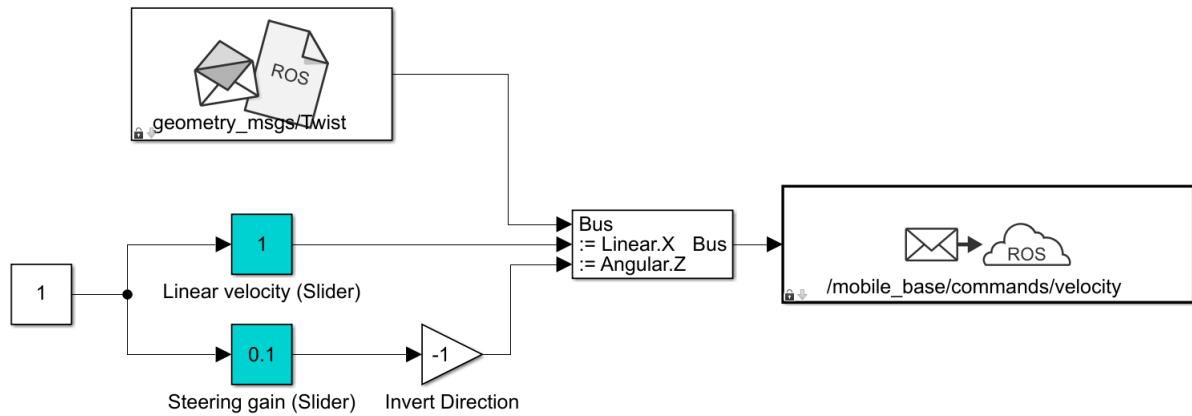

Figure 5: Simulink schematic
7. Under the 'Network' tab, choose 'Attached to:' to be equal to 'Host-only Adapter' and Name as 'vboxnet0' as shown in Figure 5.
5. Add a **Constant** block, a **Gain** block, and two **Slider Gain** blocks. Connect them together as shown in Figure 5, and set the **Gain** value to -1.